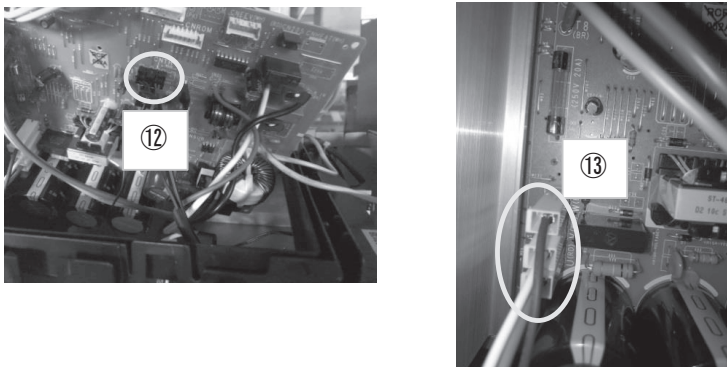

Fig.6 CnTH and power cable of compressor(U,V,W)
- 12) Disconnect CnTH(Black) on control PCB. (Fig.6 ⑫)
13) Disconnect a power cable of compressor (U,V,W) from control PCB. (Fig.6 ⑬)